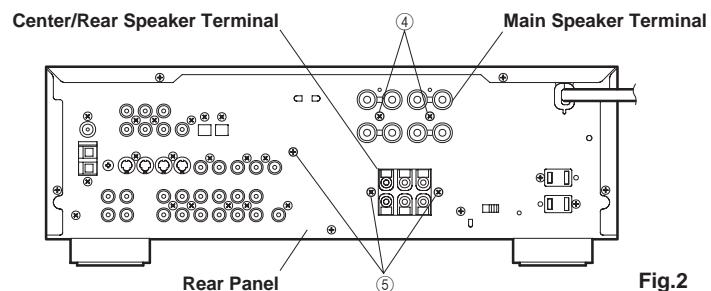

Fig.2
a. Remove 2 screws (④) fixing the Main Speaker terminal in Fig. 2.
c. Remove 3 screws (⑤) fixing the Center/Rear Speaker terminal and the Heat Sink in Fig. 2.